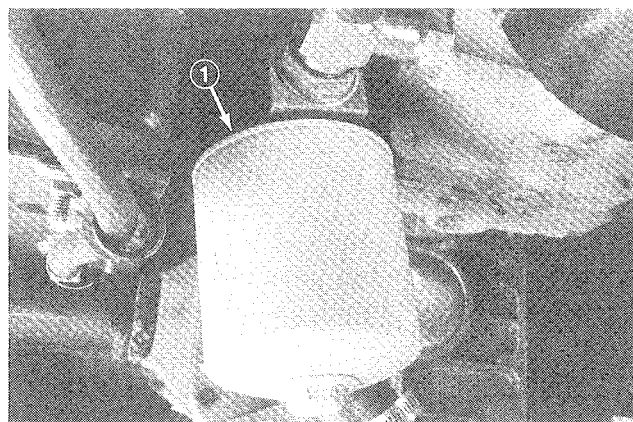

Figure 61
1. Clean area where hydraulic oil filter mounts. Remove filter from base (Fig. 61) and clean filter mounting surface.